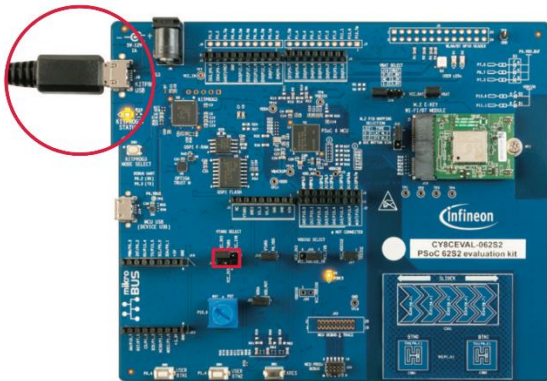

Figure 2: Connect CY8CEVAL-062S2 to development PC via USB
3. Connect the CY8CEVAL-062S2 to your development PC using the included USB cable as shown in Figure 2.